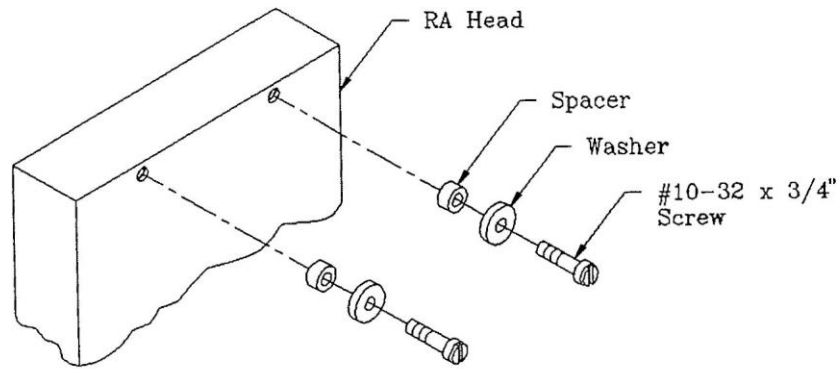

Figure 6
- A. Remove the two 10-32 x $\frac{1}{4}$ " screws from the rear top of head. Assemble the washer and spacer to the 10-32 x $\frac{3}{4}$ " screw. Thread the screw into the tapped hole (10-32) on the rear top of the analgesia head. Turn the screw until it is tight. Repeat for the other screw. (See fig 6).